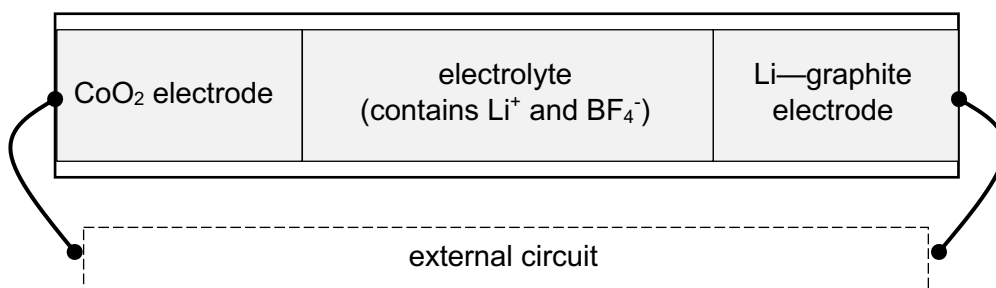

Fig 5.1
- (a) Fig 5.1 is a diagram representing a simplified lithium-ion battery.
- (i) On the diagram in Fig 5.1,